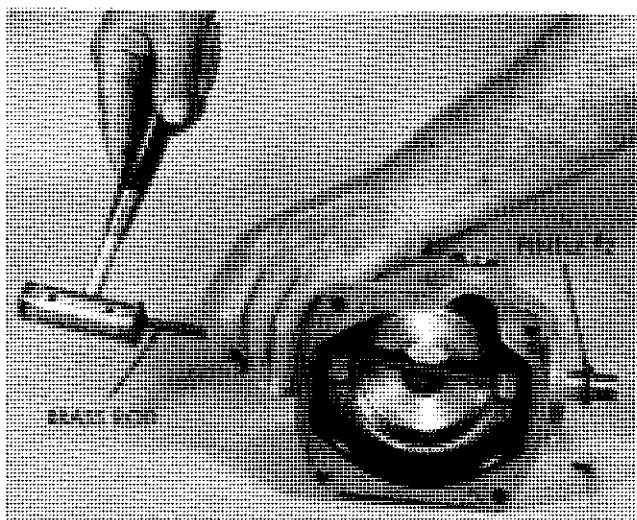

Figure VI-32. Removal of Pintles and Yoke
- c. Remove pintle number 2 by inserting the brass rod through the hole vacated by pintle number 1 and tap it out (Figure VI-32).